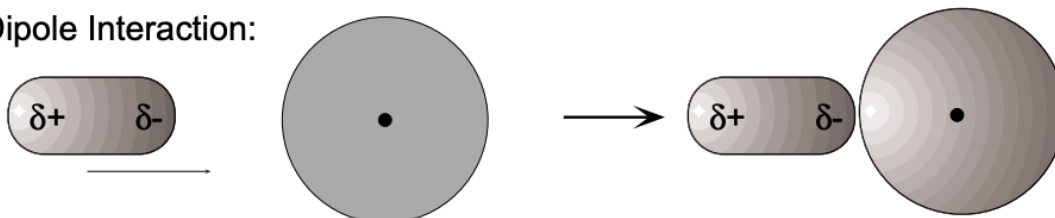

Figure 11
2. Dipole-Induced Dipole Interaction: A dipole in one molecule can interact with and polarize the electrons of a neighboring non-polar molecule, thus generating an induced dipole which will experience an attractive force with the polarizing, polar dipole (fig. 11). P. Debye showed that in a molecule with a "polarizability" of (α) the attractive potential arising from dipole-induced dipole interaction is given as: